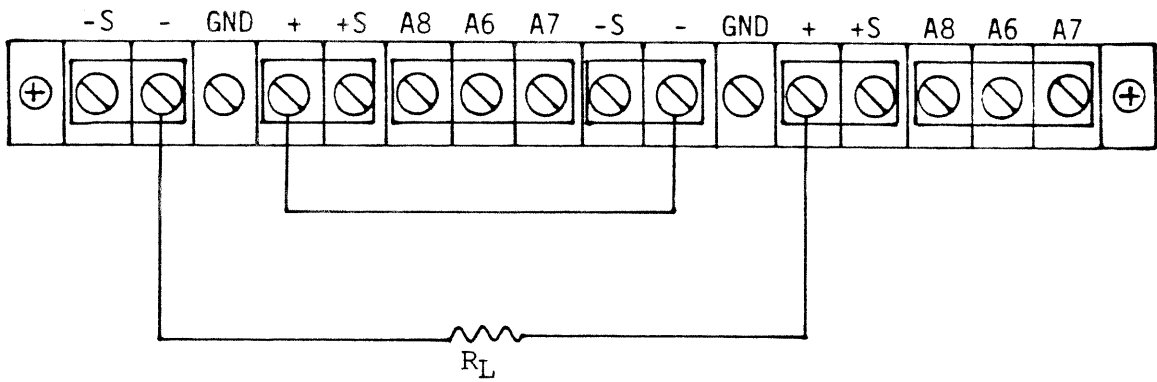

Figure 3-6. Normal Series Stopping
(5) Normal Series. This mode of operation provides output voltage control by front panel voltage controls on either series connected power supply. Current output from each supply will be equal. See figure 3-6 for strapping requirements.